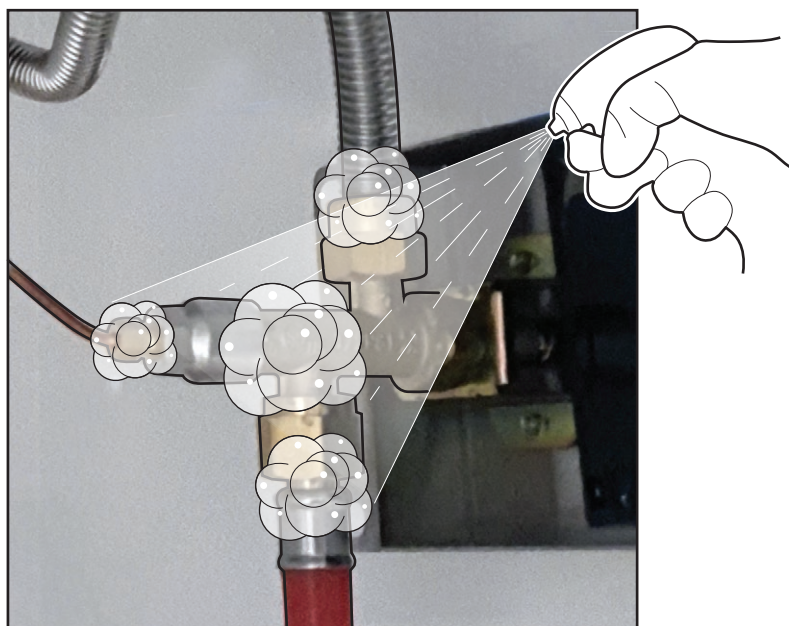

Fig. 8 Apply soap solution over all joints.
3. Check for leaks by brushing or spraying a soap solution over all gas system joints, including all valve, hose and regulator connections see fig 8.